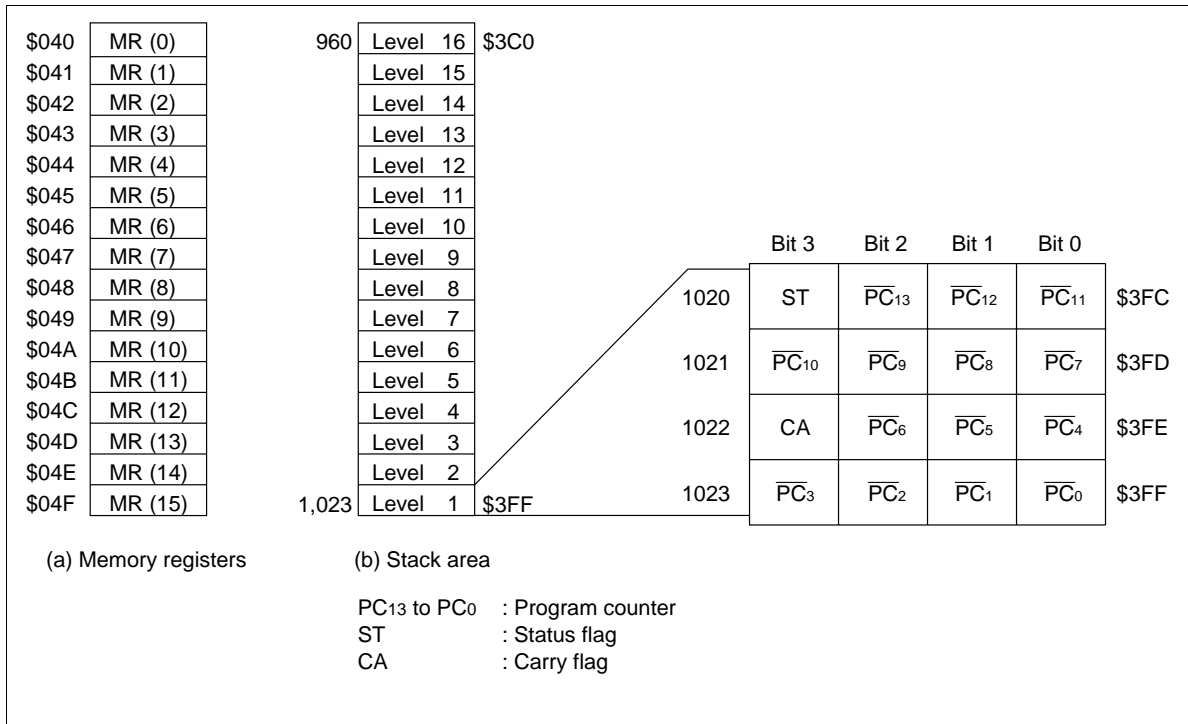

Figure 6 Configuration of Memory Registers and Stack Area, and Stack Position
This is the stack area used to save the contents of the program counter (PC), status flag (ST), and carry flag (CA) when a subroutine call (CAL or CALL instruction) or interrupt handling is performed. As four digits are used for one level, the area can be used as a subroutine stack with a maximum of 16 levels. The saved data and saved status information are shown in figure 6. The program counter is restored by the RTN and RTNI instructions. The status and carry flags are restored by the RTNI instruction, but are not affected by the RTN instruction. Any part of the area not used for saving can be used as a data area.